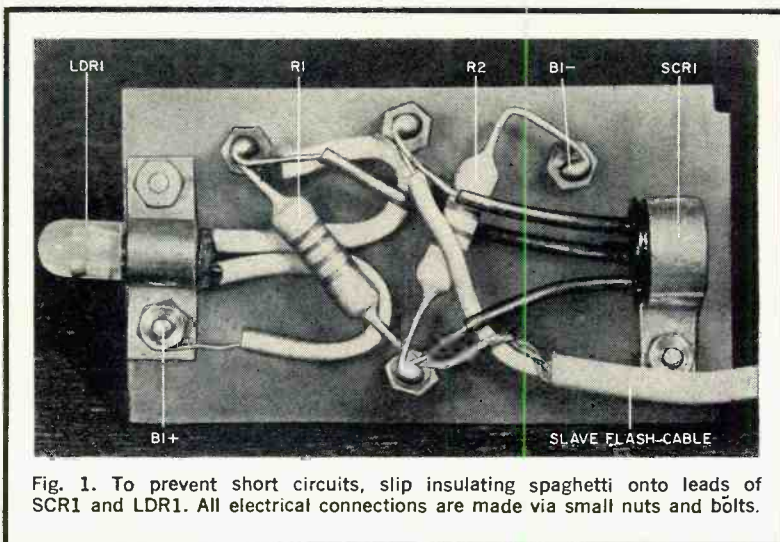

Fig. 1. To prevent short circuits, slip insulating spaghetti onto leads of SCR1 and LDR1. All electrical connections are made via small nuts and bolts.
**Construction.** Parts layout is not critical except that the light-sensitive end of *LDR1* (see Fig. 1) must be in the open so that it can "see" the master flash unit. The prototype was built into a 2½"-long by 1½"-diameter plastic container with twist-on cap. A piece of phenolic board, cut to fit across the center of the container, divides the interior of the container into two compartments. One compartment is for AA cell *B1*, the other for the remaining parts.
bolt them to the board, using the hardware marked BI+ and BI- as shown in Figs. 1 and 2. Cut the camera-end connector off a flash gun cable, drill a small hole in the cap of the slave flash container, and pass the cut end of the cable through this hole. Strip away some insulation, and connect the positive lead of the cable to the anode of SCR1; the negative lead goes to the cathode. Solder all connections.